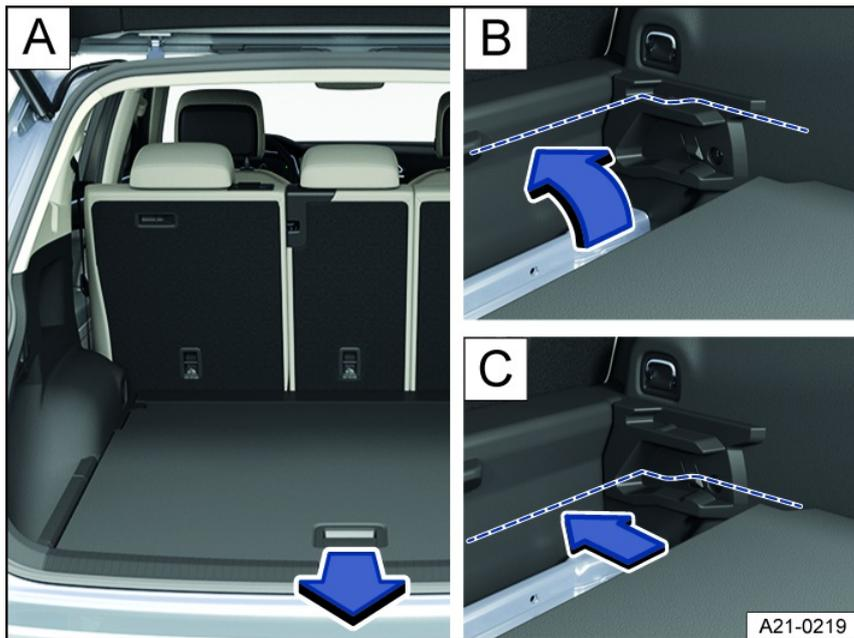

Fig. 166 In the luggage compartment: Adjusting the height of the luggage compartment floor.
1. Grip the handle recess and pull the luggage compartment floor out of the vehicle *fig. 166* **A**.
2. Lift the luggage compartment floor and pull it backwards out of the guides on the sides of the luggage compartment *fig. 166* **A**.
3. Insert the luggage compartment floor into the guides at the desired height and push it forwards as far as it will go *fig. 166* **B**, **C**.
1. Slide your fingers into the recessed grip *fig. 166* **A** and pull the luggage compartment floor backward out of the guides at the sides of the luggage compartment.